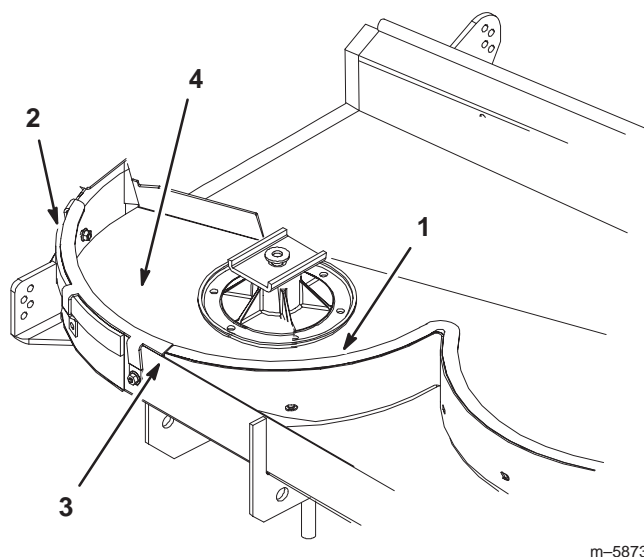

Figure 9
1. Place the right baffle behind the right cutting chamber (Fig. 9). The tabs will mount on the outside of the mower.
2. Align the right baffle against and flush with the bottom of the center baffle (Fig. 9).